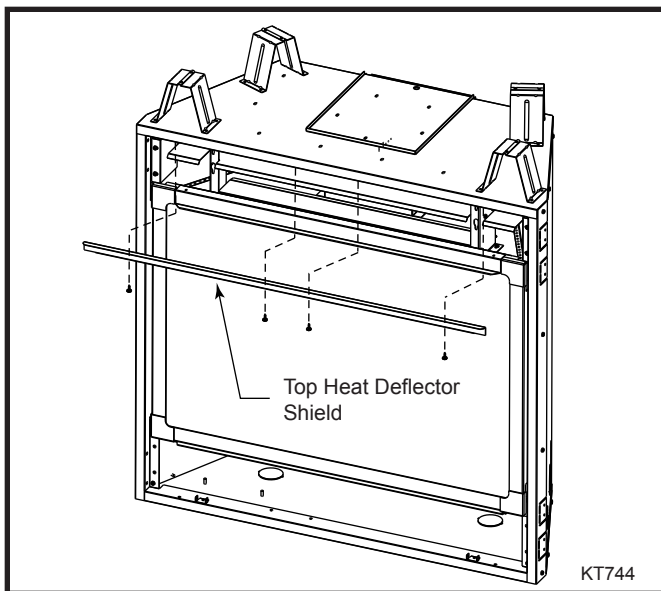

Fig. 3 Install top heat deflector shield.
4. Install the top heat deflector shield by aligning the holes of the shield with the four (4) inside holes on the fireplace top flange. Use the four (4) screws supplied to attach the shield to the unit. (Fig. 3)